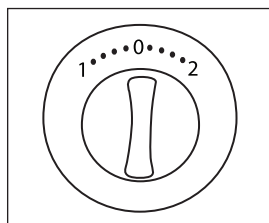

Fig. 13
4. This appliance is with 2 speeds shift: Fig. 13